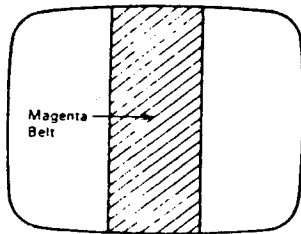

FIGURE 4
3. Pull the Deflection Yoke backward so that the Magenta belt will appear. (See Fig. 4)
Fig. 4. Rotate lever at 45° angle (4 ways) and check. No two switches should make at the same time as this will interfere with the direction "Nibbler" travels. Readjust as required.